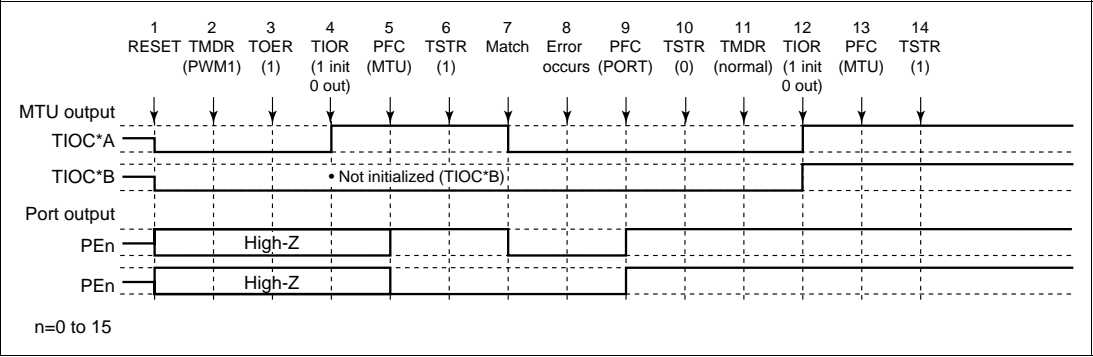

Figure 12.102 Error Occurrence in PWM Mode 1, Recovery in Normal Mode
(7) Operation when Error Occurs during PWM Mode 1 Operation, and Operation is Restarted in Normal Mode: Figure 12.102 shows an explanatory diagram of the case where an error occurs in PWM mode 1 and operation is restarted in normal mode after re-setting.
- 1 to 10 are the same as in figure 12.102.
1 to 10 are the same as in figure 12.102.